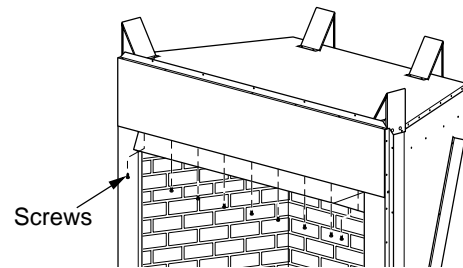

Figure 12 - Screw and Hood Placement
1. Attach hood to firebox using screws provided (see Figure 12).